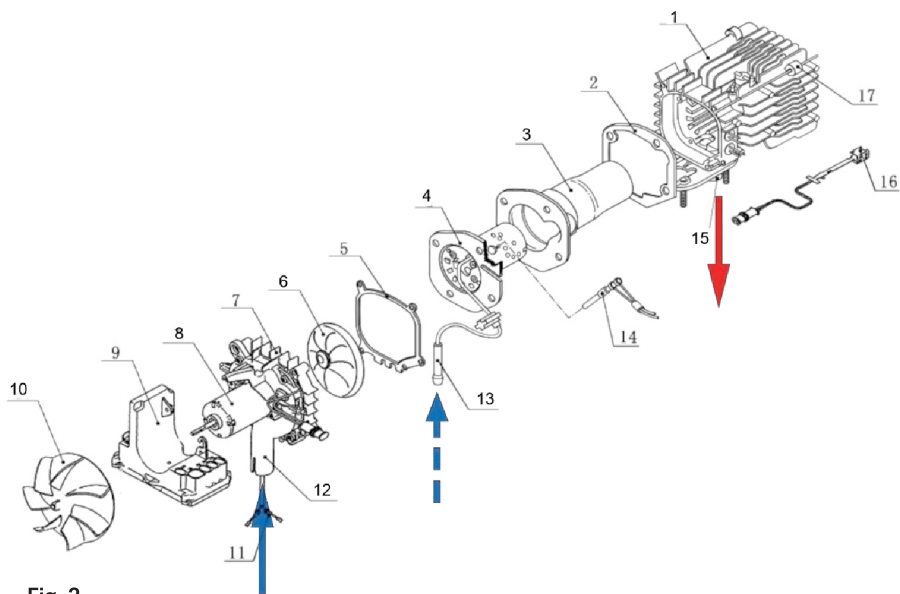
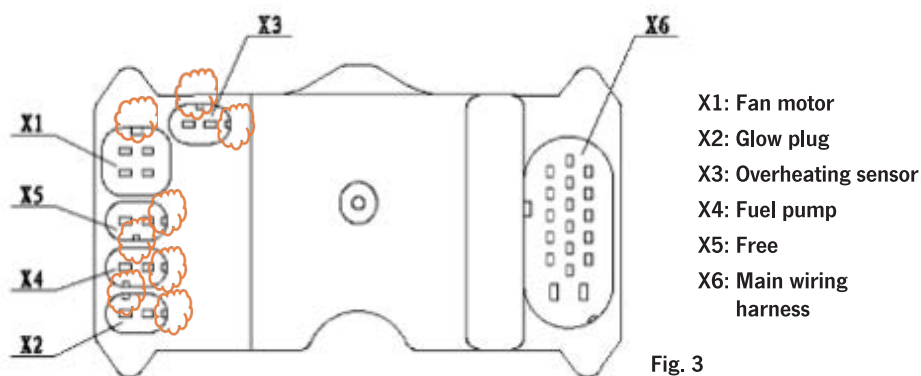

Fig. 2
Fig. 3
This furnace consists of a burner [Page 80 Fig. 2 (4)] and a combustion chamber [Page 80 Fig. 2 (3)] which are situated inside of a heat exchanger [Page 80 Fig. 2 (1)].
Cold air is sucked into this passage by the impeller [Fig. 1 (1)] [Page 80 Fig. 2 (10)]. After passing the heat exchanger hot air is blown out [Fig. 1 (2)].
For the burning process the heater must be supplied with fuel and fresh air. The fuel enters the burner through the fuel pipe inlet [Fig. 1 (5)] [Page 80 Fig. 2 (13)] and is ignited by the glow plug [Page 80 Fig. 2 (14)] after its atomization. The flame enters the gap between the walls of the burner [Page 80 Fig. 2 (4)] and the combustion chamber [Page 80 Fig. 2 (3)] at the rear of the burner.
The supply of combustion air is provided by the air intake [Fig. 1 (3)] [Page 80 Fig. 2 (12)]. The inner supply air fan [Page 80 Fig. 2 (6/8)] forces the air into the burner. After the combustion of the air and vaporized fuel mixture the exhaust is discharged through the exhaust gas stub [Fig. 1 (4)] [Page 80 Fig. 2 (15)].
The controller [Page 80 Fig. 2 (9)] is situated in the anterior part of the heater behind the impeller of the heating air fan. Its main tasks consist of collecting all data of the heater (e.g. temperature sensors, drive circuit, frequency, rotational speed, voltage, and more). Based on these data the controller automates the heating process, the system surveillance and the handling of system malfunctions.
The overheating sensor [Page 81 Fig.3 (X3)] is installed on the back outer wall of the heat exchanger [Page 80 Fig. 2 (16)]. If the temperature of the aluminium becomes higher than a defined upper limit, the fuel pump circuit will be cut off by the controller and the supply of fuel is stopped immediately. Then for purpose of overheating protection the heater is turned off.